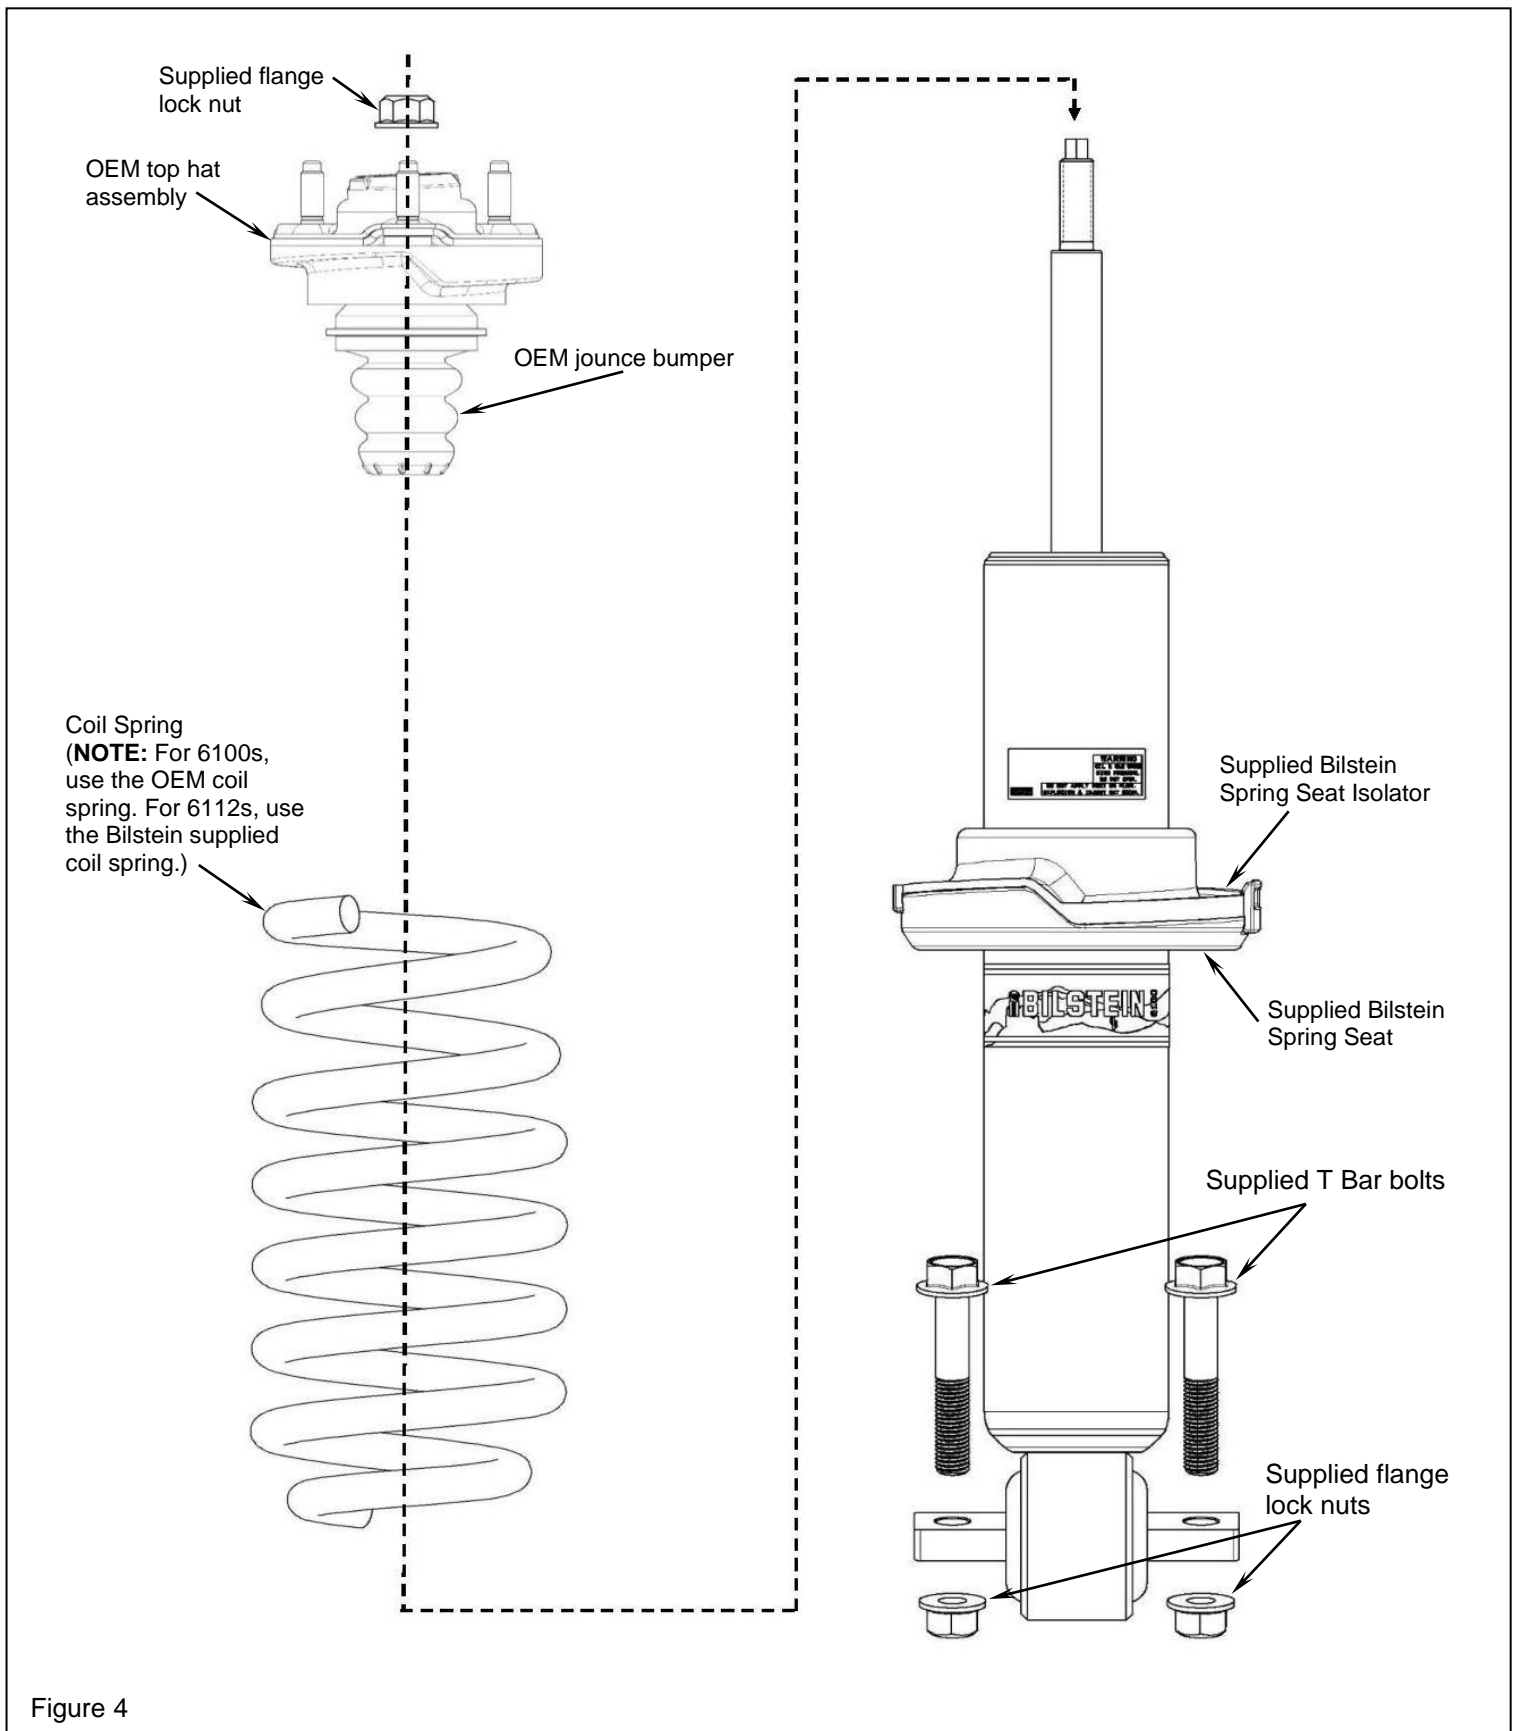

Figure 4
- G. Install the OEM jounce bumper followed by the OEM top hat assembly (which includes the OEM top mount plate and OEM top mount spring isolator) over the threaded stem on the new Bilstein shock and on top of the spring. Refer to Figure 4.